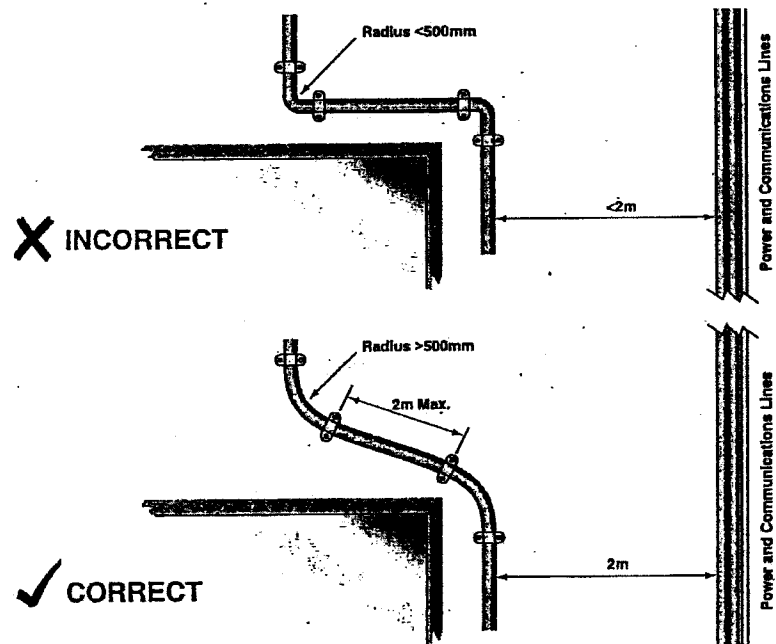

Figure 12.
- Parallel routing with other services – Minimum separation = 2m. See Figure 12 on page 20.